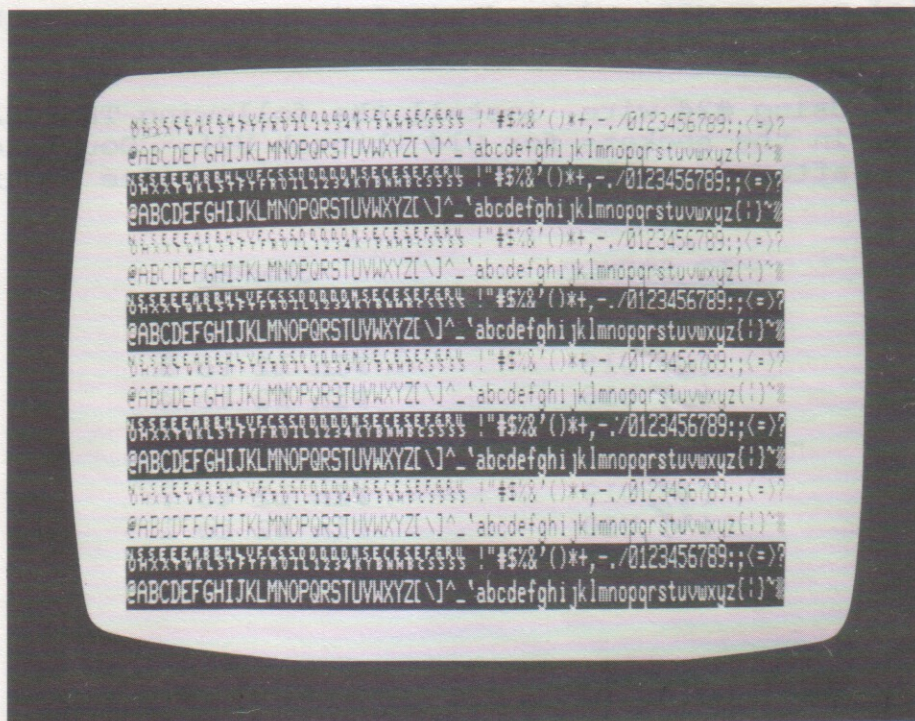

Figure 3-8. Display circuits test pattern, 6575 character generator. (6574 pattern differs. See Section VIII.)
- (✓) Momentarily ground pin 1 of U2 and pin 5 of U75. The display shown in Figure 3-8 should appear on the monitor screen.